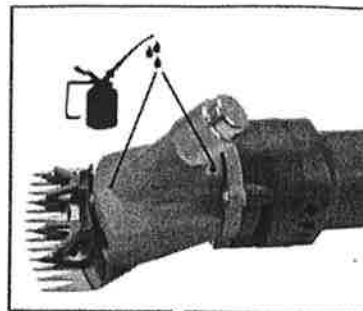

Fig. 4(Lubricant Oiling from the Hole on the Head Shell) (Hole 1 fixed position; Hole 2 Top)
3. During work, lubrication oil should be added to the machine . When the machine runs 1-2 minutes, it should be oiled on blade once again . The oiling amount usually is 5-8 droplets. Apply lubrication oil to two holes on the machine hole after about thirty minutes of operation. The oiling amount in such case is usually 3-5 droplets (see Fig. 4).